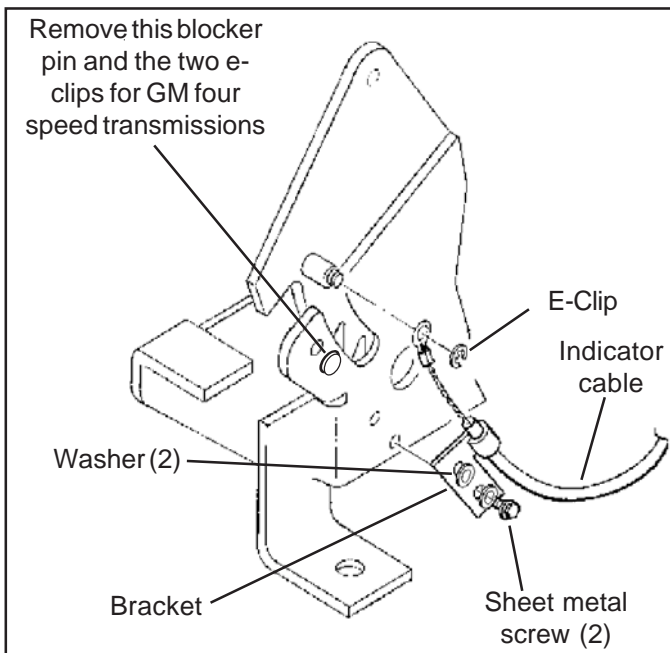

Figure 3
STEP 7. Just before the final installation of the shifter in the vehicle, attach the indicator cable to the side of the shifter as shown in **Figure 3**. The indicator cable bracket is secured to